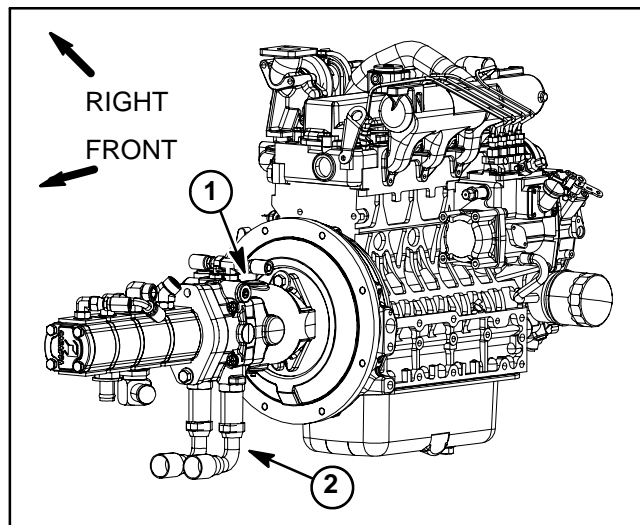

Figure 58
3. Thoroughly clean junction of hydraulic hose and left side elbow fitting on bottom of traction pump (Fig. 58). Disconnect hose from left side pump fitting.